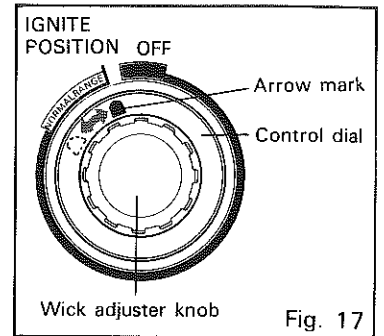

Fig. 17
- ① Flame becomes stronger when the wick adjuster knob is turned in the direction of ON (clockwise) and weaker when it is turned in the direction of OFF. (counterclockwise)
- ② Within 20 to 30 minutes after ignition, the flame may become higher with the raising room or furniture temperature. In this case, hold the burner cylinder knob and rotate the burner cylinder right and left lightly to see if the flame becomes stable. If the flame stays higher, lower the wick slightly to obtain a normal flame as illustrated below.
- ③ Regulating the dial out of the NORMAL RANGE will produce carbon on the wick and burner basket wick will result in improper combustion or in stiffening the lower and upper parts of the wick. Therefore please make adjustment to obtain normal flame by keeping the arrow mark of the control dial within the NORMAL RANGE. (See Fig. 17)